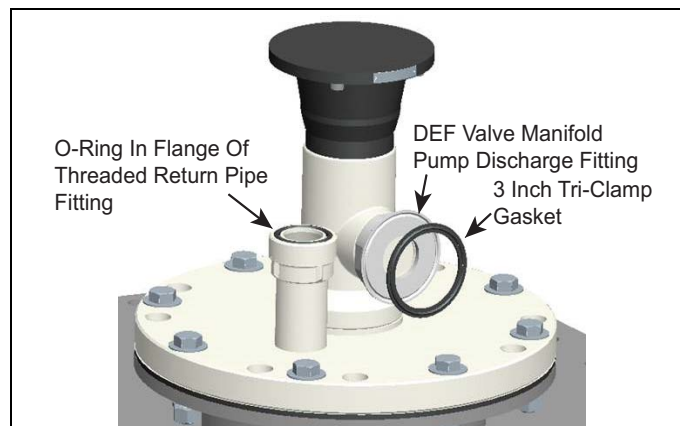

Figure 9. Installing The Manifold's Discharge Line Tri-Clamp Gasket
3. Remove the protective plastic cap from the DEF Valve Manifold Pump Discharge port. Install a 3 inch Tri-Clamp Gasket into the Pump Discharge port as shown in Figure 9.